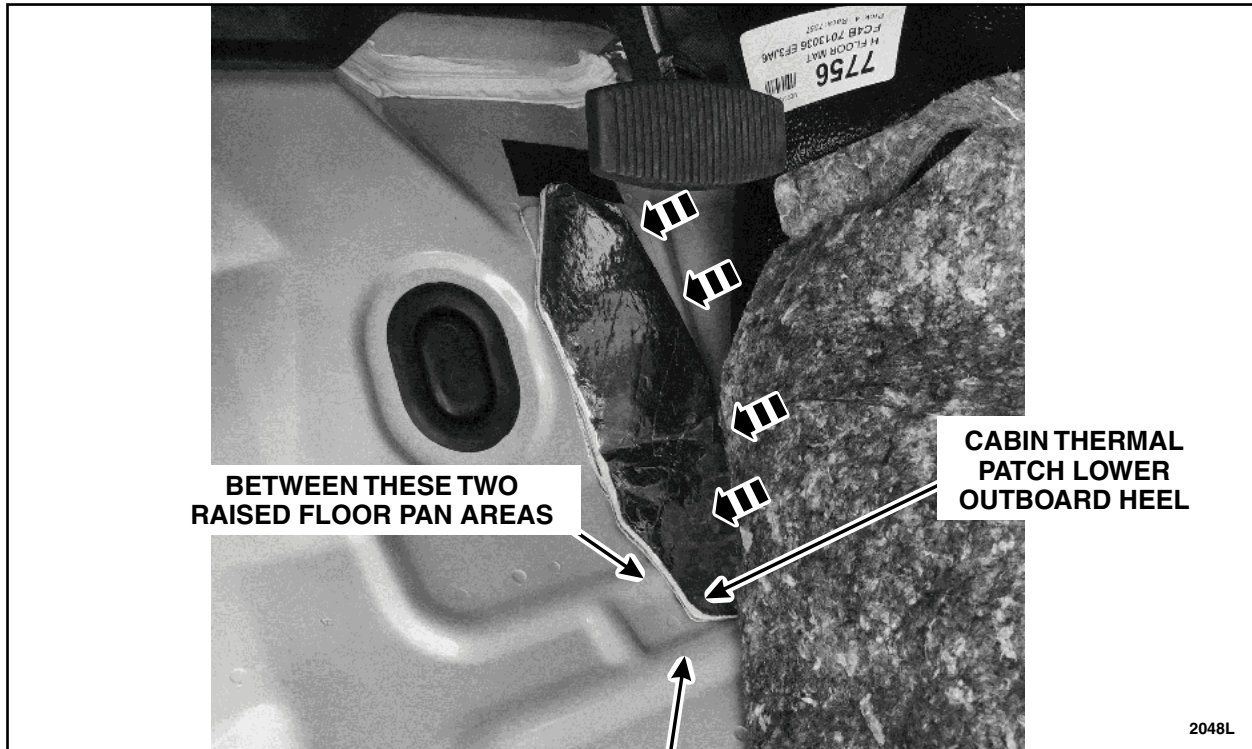

FIGURE 4
4. Peel the protective backing cover from the *new* cabin floor thermal patch and install it over the highlighted area in Figure 3. Start at the bottom, sticky side down, and align the lower outboard heel of the thermal patch so that it sets between the areas indicated in Figure 4.